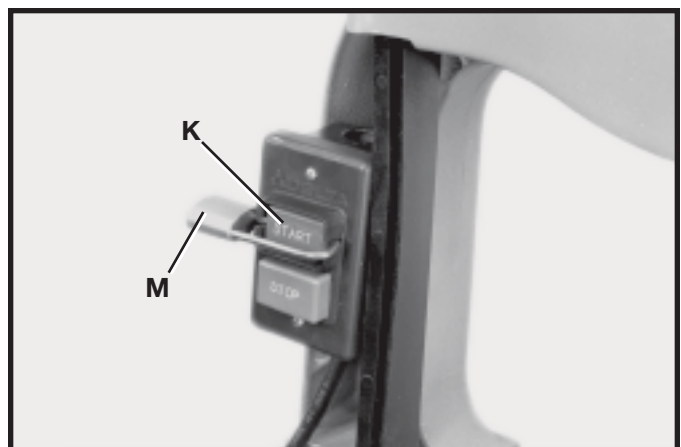

Fig. 13
We suggest that when the saw is not in use, the switch be locked in the "OFF" position using a padlock (M) Fig. 13, through the switch plate and "START" button (K) as shown.